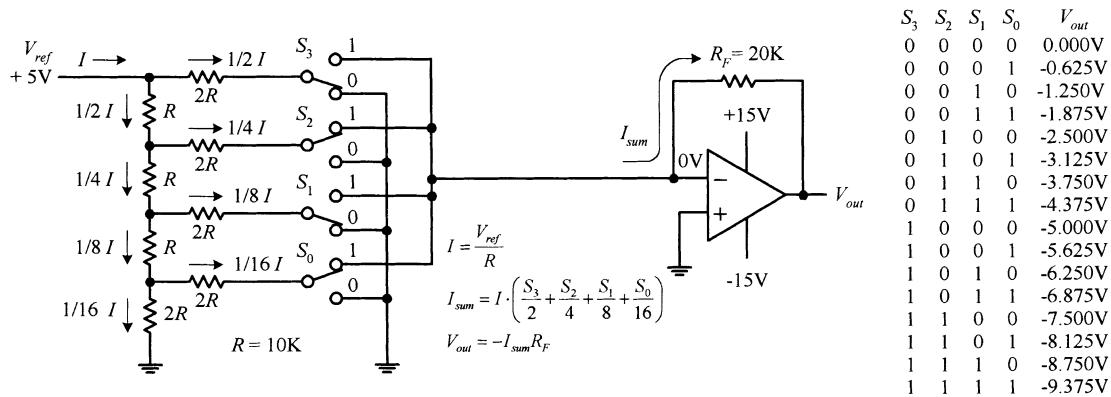
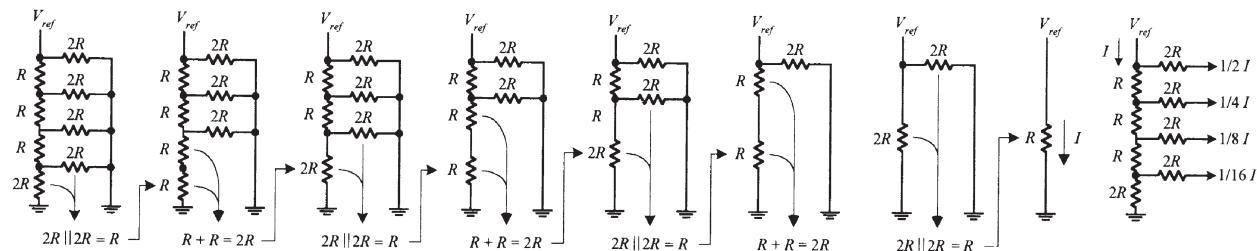

FIGURE 12.118
FIGURE 12.119
An R/2R DAC uses an R/2R resistor ladder network instead of a scaled-resistor network, as was the case in the previous DAC. The benefit of using the R/2R ladder is that we need only two resistor values: R and 2R. Figure 12.118 shows a simple 4-bit R/2R DAC. For now, assume that the switches are digitally controlled (in real DACs, they are replaced with transistors).
The trick to understanding how the R/2R ladder works is realizing that the current drawn through any one switch is always the same, no matter if it is thrown up or down. If a switch is thrown down, current will flow through the switch into ground (0 V). If a switch is thrown up, current will flow toward virtual ground—located at the op amp's inverting input (recall that if the noninverting input of an op amp is set to 0 V, the op amp will make the inverting input 0 V, via negative feedback). Once you realize that the current through any given switch is always constant, you can figure that the total current (I) supplied by V_{ref} will be constant as well. Once you have that, you figure out what fractions of the total current pass through each of the branches within the R/2R network using simple circuit analysis. Figure 12.118 shows that $\frac{1}{2}I$ passes through S_3 (MSB switch), $\frac{1}{4}I$ through S_2 , $\frac{1}{8}I$ through S_1 , and $\frac{1}{16}I$ through S_0 (LSB switch). If you're interested in how that was figured out, the circuit reduction shown in Fig. 12.119 should help.
0101 (5), $\frac{1}{4}I + \frac{1}{16}I$ combine to form I_{sum} . But what is I ? Using Ohm's law, it's just $I = V_{\text{ref}} / R = +5 \text{ V} / 10 \text{ k}\Omega = 500 \mu\text{A}$. This means that $I_{\text{sum}} = \frac{1}{4}(500 \mu\text{A}) + \frac{1}{16}(500 \mu\text{A}) = 156.25 \mu\text{A}$. The final output voltage is determined by $V_{\text{out}} = -I_{\text{sum}}R_F = -(156.25 \mu\text{A})(20 \text{ k}\Omega) = -3.125 \text{ V}$. The formulas and the table in Fig. 12.118 show the other possible binary/analog combinations.